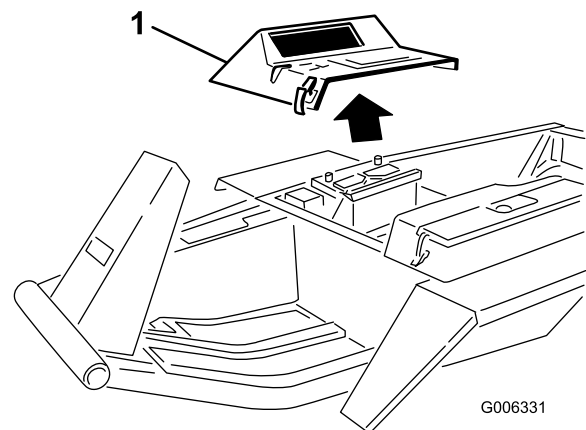

Figure 1
2. Unlatch and remove the instrument cover (Figure 1).